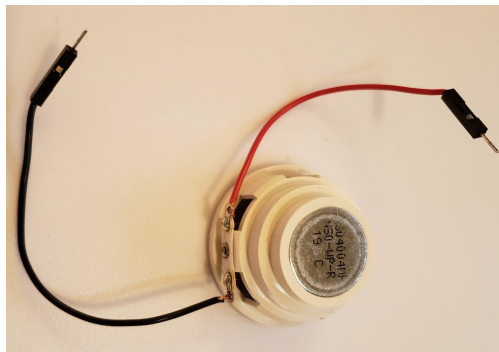

Figure 8: Back View of the Loudspeaker.
- 3.8. Take a moment to connect the loudspeaker to the stripped jumper wires. In the ideal world, you'd solder the connections. Today you'll gently twist the stripped wires instead, as shown in Figure 8.